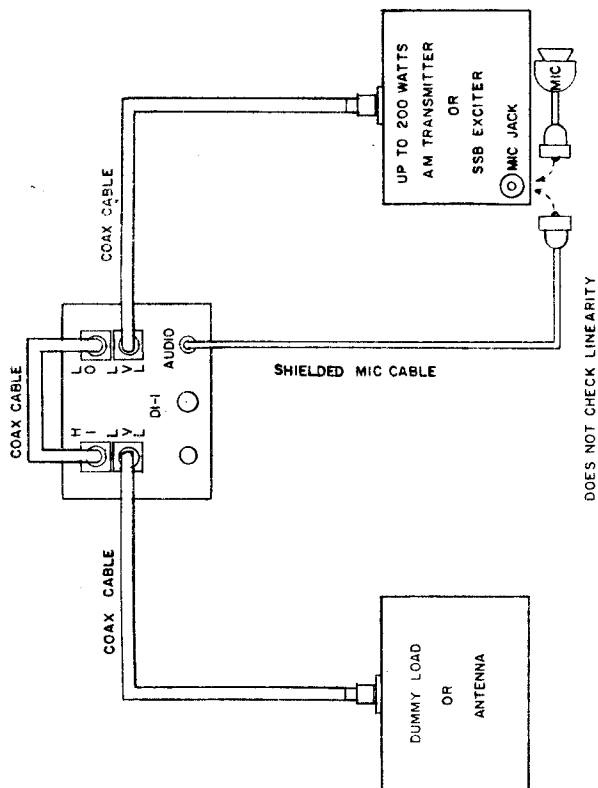
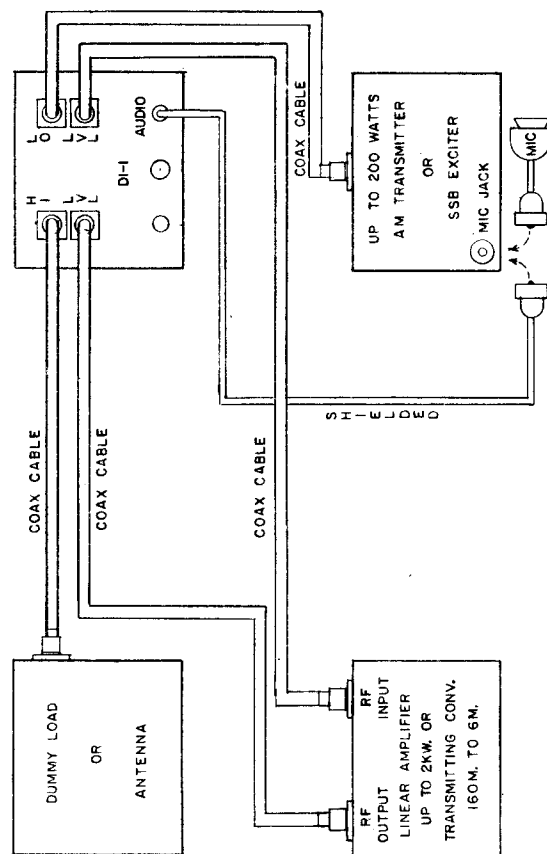

FIG 1.
FIG 3.
An accessory socket, below the chassis, accommodates a plug-in two-tone oscillator, Model TT-1, when it is required. The output from the two-tone oscillator is connected to the exciter microphone input connector. See Fig. 3, Page 7. The size of the vertical display is controlled by the 6-step vertical attenuator. Steps 1, 2, or 3 are used for higher powered transmitters while the remaining steps provide increasing sensitivity for the lower powered transmitters. The horizontal size knob controls the gain of the horizontal amplifier which provides control over the width of the display in either the trapezoid or envelope functions.
A. For use as % modulation indicator on AM transmitter or for making sideband suppression adjustments on phasing type SSB exciter. See Fig. 1, Page 7.
- B. For use as a distortion indicator with any SSB or AM exciter and a linear amplifier or transmitting converter (160 to 6 meters). See Page 7, Fig. 3.
For Interconnecting diagrams Fig. 1 and Fig. 3, Page 7
Pure RF carrier or SSB single tone with too much drive causing flattening of normal slight ripple. See fig. 3, this page.